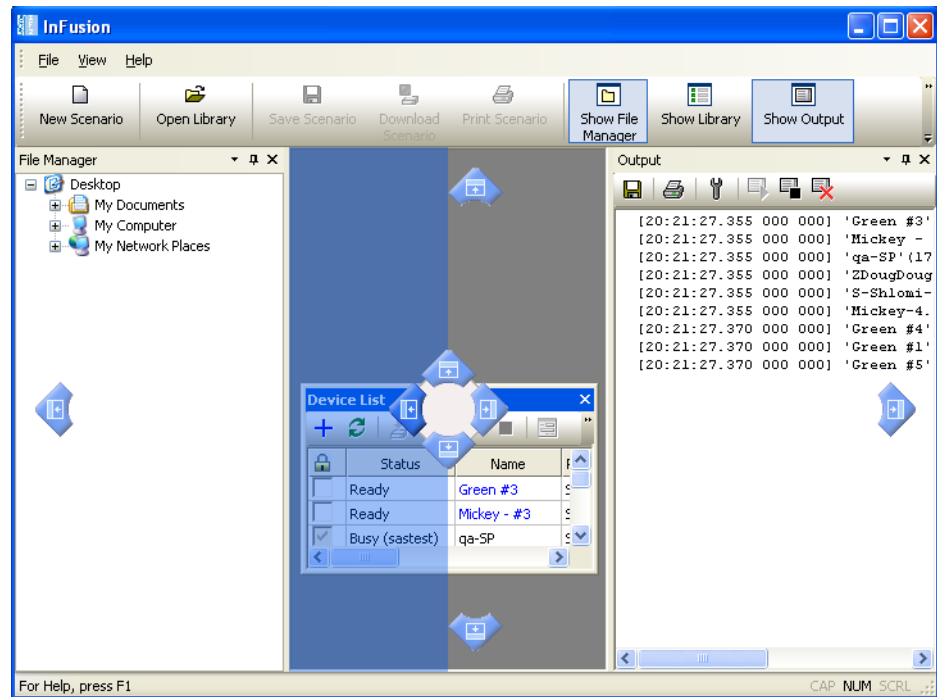

Figure 31 Application Display: New Location of Window
- Step 2** Drag the window over one of the Positioning buttons. When the mouse pointer is over the Positioning button, a ghost-like window pane appears (Figure 31). It shows you a preview of the new location of the window.